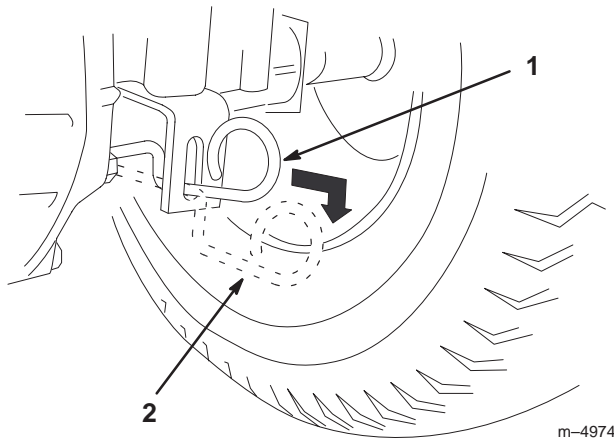

Figure 11
2. Pull the drive control out to the Push position. This disengages the drive system and allows the wheels to turn freely (Fig. 11).
Push the drive control in to the Operate position. This engages the drive system (Fig. 11).